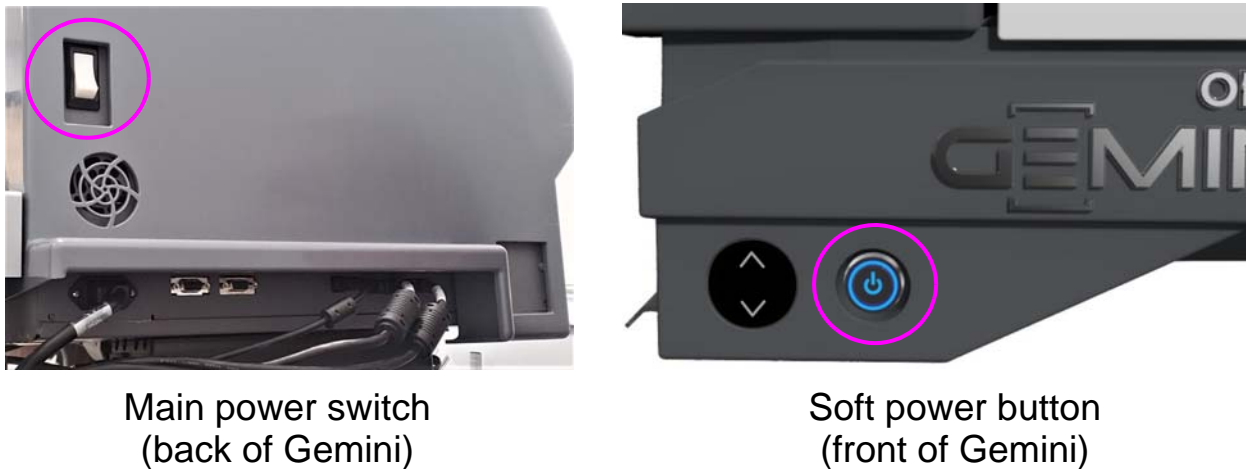

Figure 3-1: Turn on power
2. Turn on the scanner main power switch (Figure 3-1). Press and hold the soft power button on the front of the scanner and release when button turns blue.